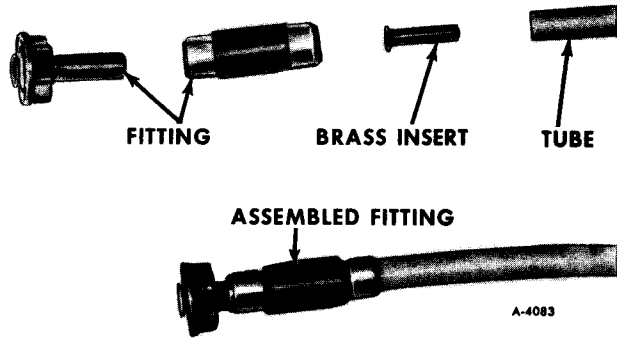

Figure 21—Coupling Assembly
2. Place brass insert into end of tube and put appropriate fitting over it (figure 21).
Rear suspension ride height is measured at the elongated slot on the frame rail. (Refer to figure 21.)